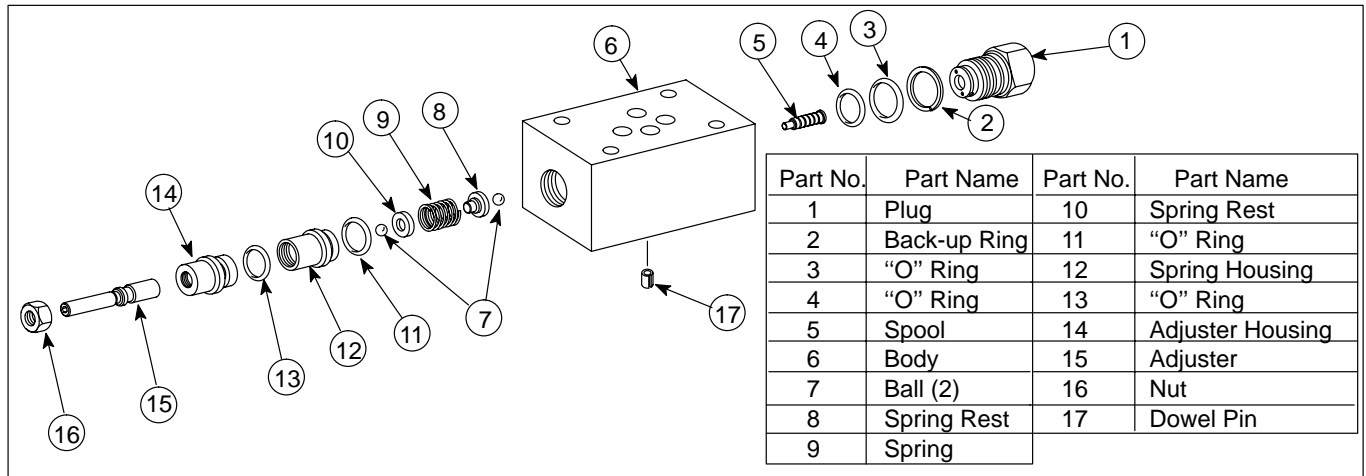

Figure 10. Reducer Module
3. Reducer Module (Fig 10): The reducer module is required for Air Gap and Wet Armature piloted models when pilot pressure exceeds 210 bar (3000 psi). These two-stage spool valves maintain a reduced outlet pressure against variations in inlet pressure. These valves are able to act as relief valves (at 50% of the maximum flow) to prevent excess pressure being developed when an actuator is subject to a reactive load.